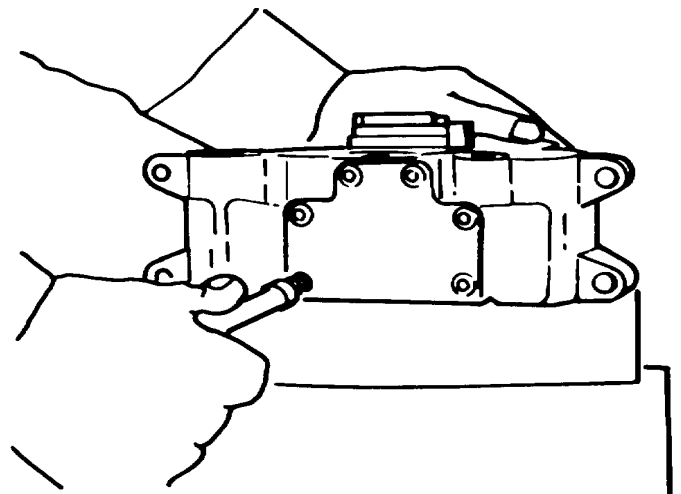

Figure A-38. Reassembly of Crankcase Cover
- (2) With a 4mm allen head wrench, reinstall the crankcase inspection cover. (Figure A-38).